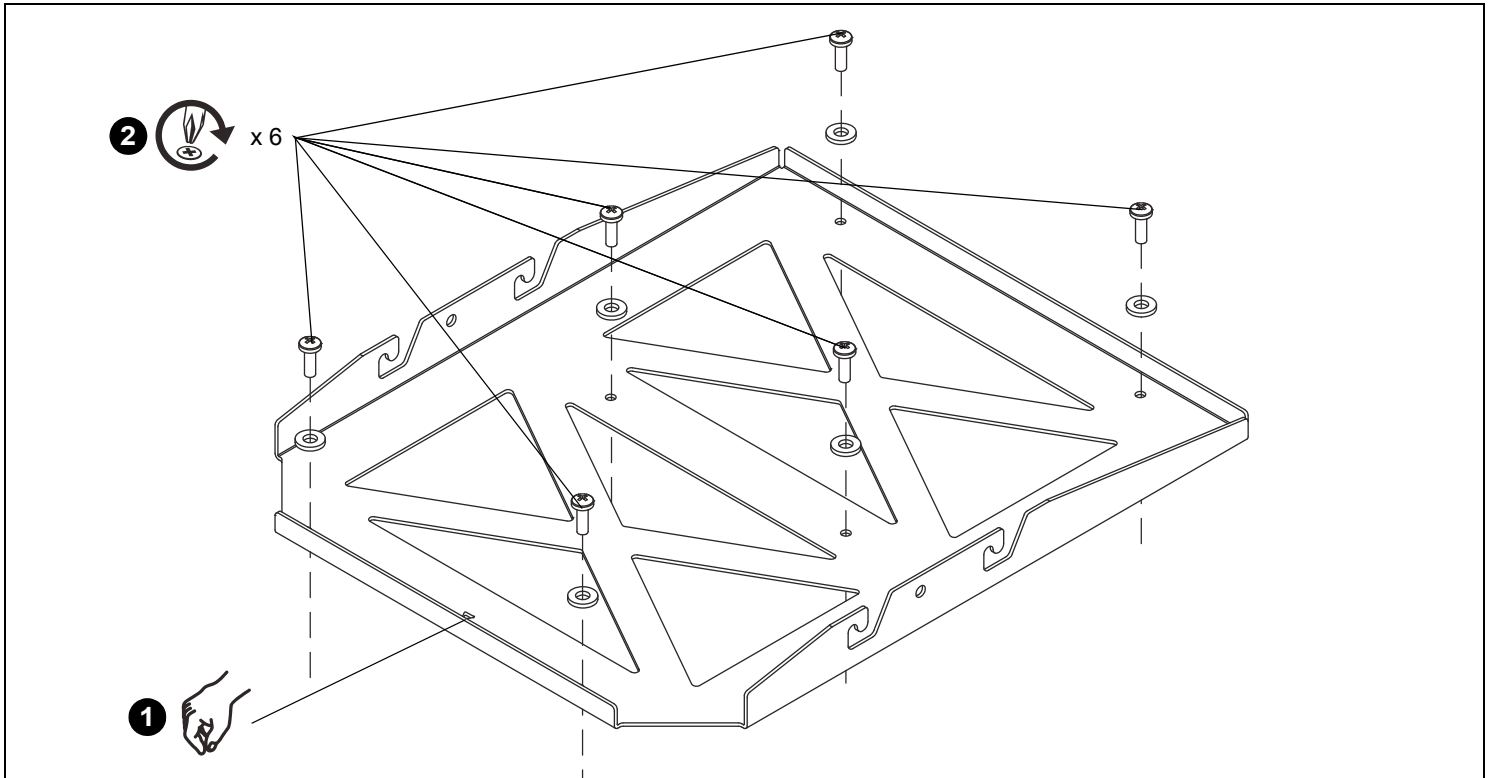

Figure 1
1. Lower custom HB bracket onto top of projector. Ensure that triangle in bracket points toward front of projector. (See Figure 1)
2. Attach HB bracket to projector using six M6 x 16mm Phillips pan head screws through six holes in the HB bracket. (See Figure 1)